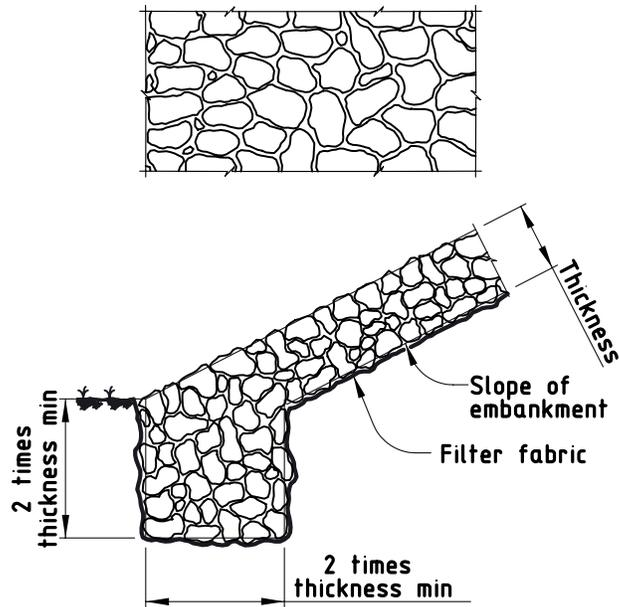

Figure 5
4. **Protection.** Construct riprap as shown in Figure 5. Place riprap stone on the slopes within the limits shown on the plans. Place stone for riprap on the bedding material to produce a reasonably well-graded mass of riprap with the minimum practicable percentage of voids. Construct the riprap to the lines and grades shown on the plans or staked in the field. A tolerance of +6 in. and -0 in. from the slope line and grades shown on the plans is allowed in the finished surface of the riprap. Place riprap to its full thickness in a single operation. Avoid displacing the bedding material. Ensure that the entire mass of stones in their final position is free from objectionable pockets of small stones and clusters of larger stones. Do not place riprap in layers, and do not place it by dumping it into chutes, dumping it from the top of the slope, pushing it from the top of the slope, or any method likely to cause segregation of the various sizes. Obtain the desired distribution of the various sizes of stones throughout the mass by selective loading of material at the quarry or other source or by other methods of placement that will produce the specified results. Rearrange individual stones by mechanical equipment or by hand if necessary to obtain a reasonably well-graded distribution of stone sizes.